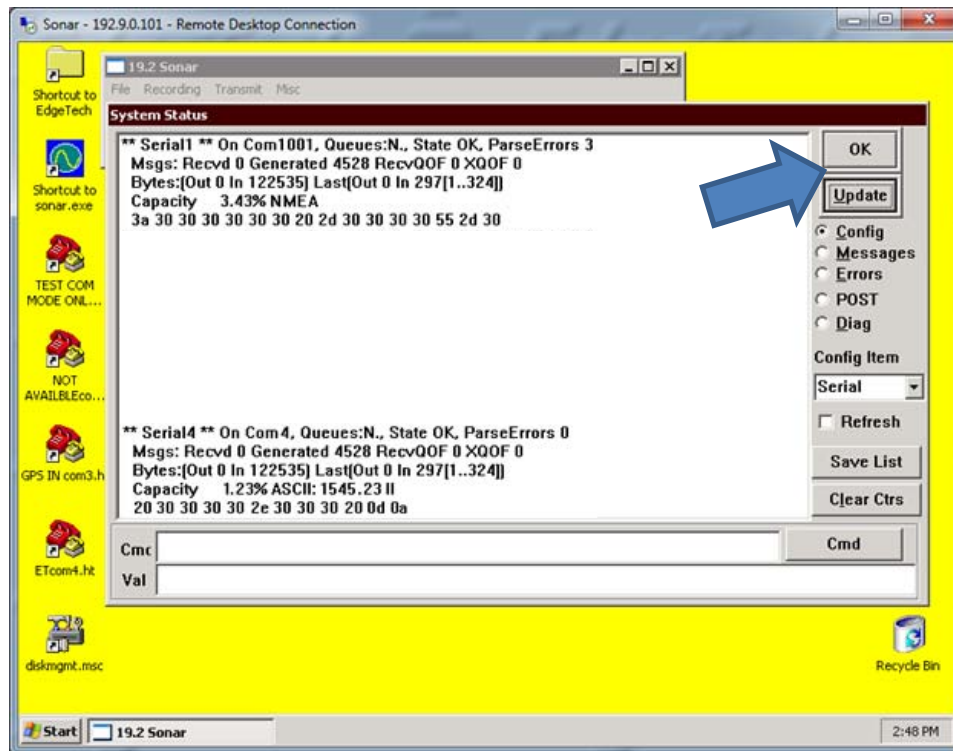

Fig. 9 - Closing the System Status Window
15. When satisfied with the incoming data, press **OK** in the System Status window (Fig. 9).